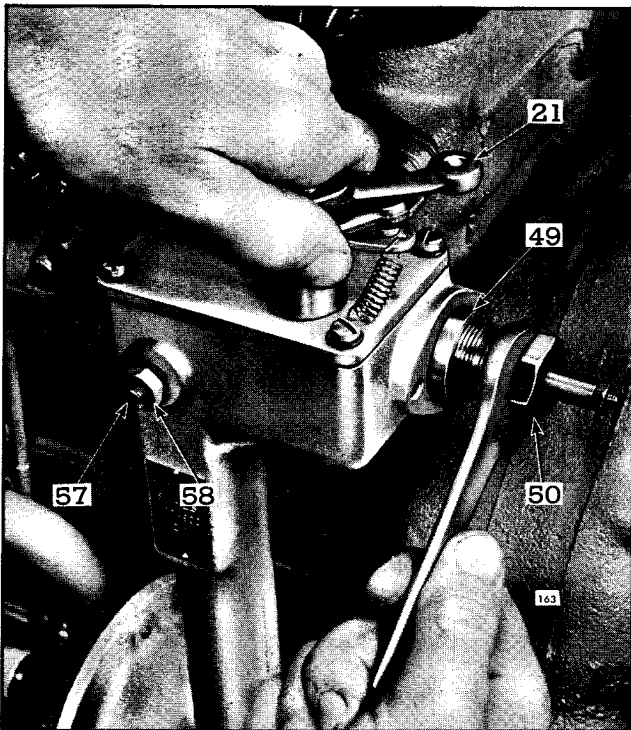

Fig. 3 - Adjusting Maximum No-Load Speed
2. Loosen lock nut (58), Fig. 3, and back out buffer screw (57) approximately 5/8" to relieve the tension on the low speed spring.